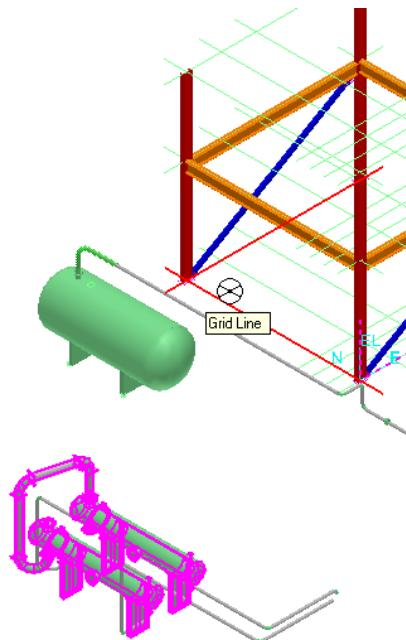

Figure 47: Point to Mirror About
8. Select the end of the column as the **Point to Mirror About**, as shown in Figure 47.